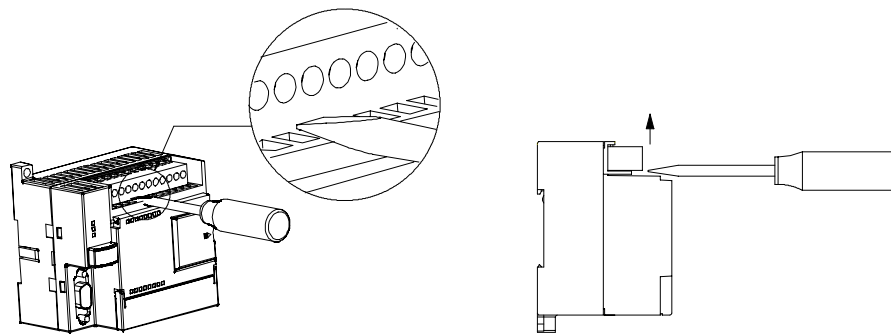

Figure 3-2 Removing the Connector
3. Remove the terminal connector by prying the screwdriver away from the S7-200 housing. See Figure 3-2.